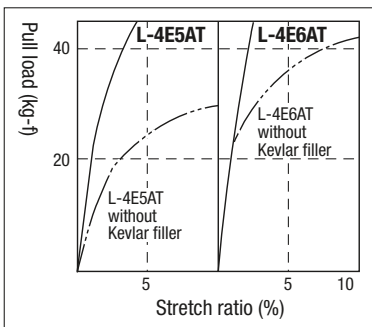

Fig.1 Cable Pull Load and Stretch Ratio
- The Kevlar* cable filler prevents damage due to excess stretching and stress that may occur when pulling the cable through conduits. <Fig. 1 >